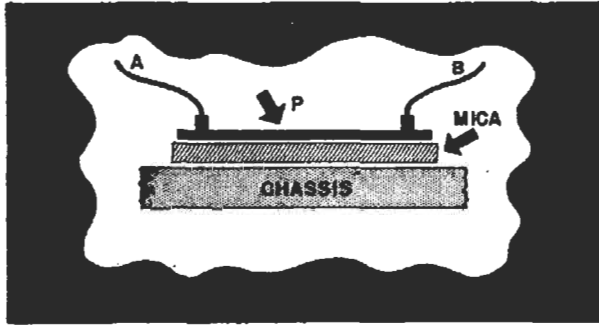

FIG. 31. How a "spark-plate" condenser is made.
► Condensers  $C_1$  and  $C_2$  are called "spark plate" condensers and deserve some special mention. The particular symbol used indicates that one plate of each of these condensers is the receiver chassis. As Fig. 31 shows, the other plate  $P$  is insulated from the
► Watch for connections like that in Fig. 31, where wire  $A$  ends at the condenser plate and wire  $B$  completes the circuit to the succeeding parts. In other words, although wire  $A$  ends
Ordinarily we would expect a bypass condenser to be connected as shown in Fig. 32A. Actually, however, there will be a certain amount of inductance in the wire going into the condenser (Fig. 32B). This inductance is therefore between the circuit and the condenser, and limits the effectiveness of the condenser. By bringing the circuit wire up to the condenser and continuing on as in Figs. 31 and 32C, there is no common